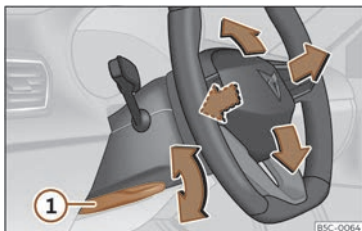

Fig. 72 Lever in the lower left side of the steering column.
- Pull the »» Fig. 72 ① lever down, move the steering wheel to the desired position and lift the lever back up until it locks.
- After adjusting the steering column, push the lever »» Fig. 72 ① firmly upwards to ensure the steering wheel does not accidentally change position while driving.